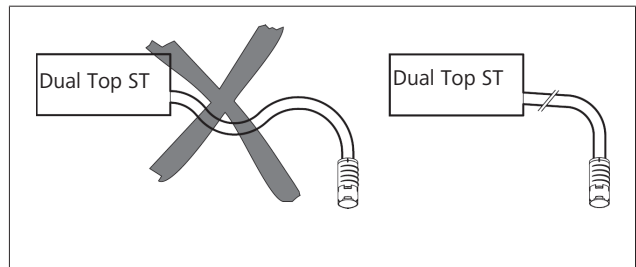

Fig. 38 Prevent condensation forming
See Fig. 38.
- The exhaust line must point from the heater downwards to allow condensation water to drain (see Fig. 38). If this is not possible, you must drill a condensation drain hole with a diameter of 5/32 in (4 mm) at its lowest point.